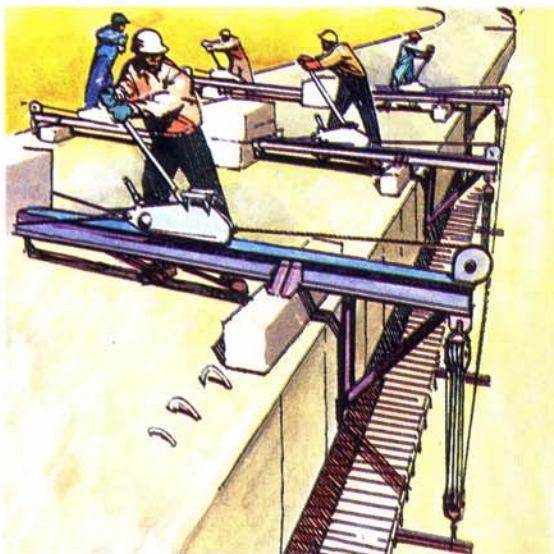

Fig. 16
- positioning formwork (Fig. 16)